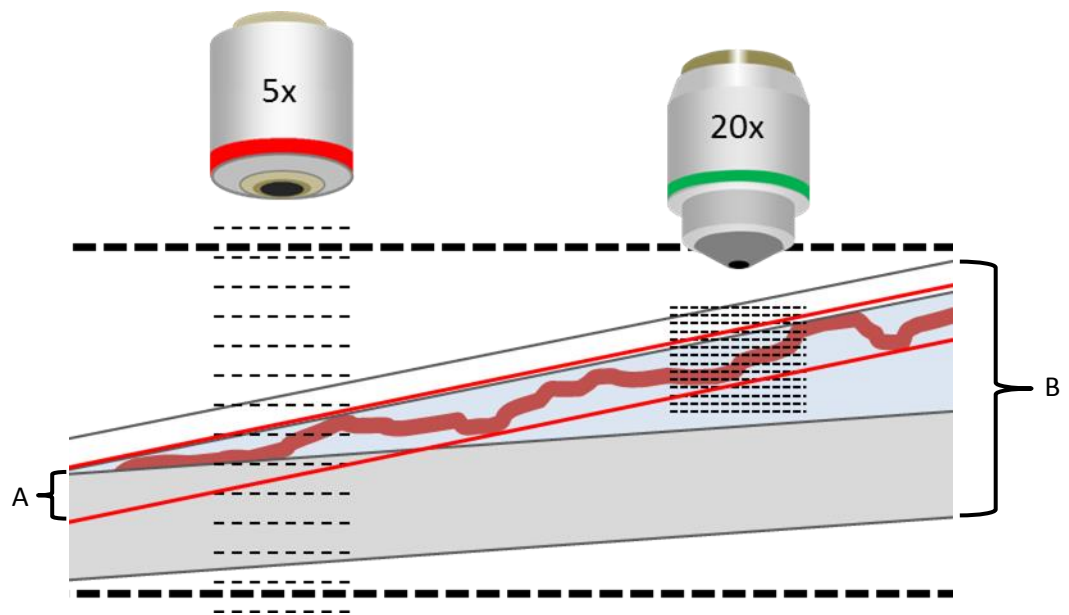

Figure 15 Schematic showing macro and micro flatness
In figure 15 (above) you can see the **macro-flatness** variation as the range between the two heavy black dotted lines (A). Tilt in the slide, cover slip, and mountant thickness, all contribute to **macro-flatness**. The specimen **micro-flatness** is shown as variations in tissue level between the two solid red lines (B).